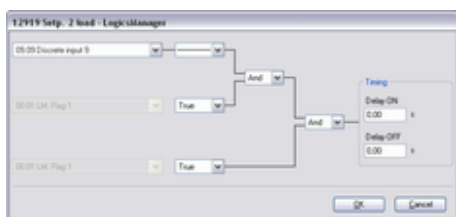

Fig. 206: LogicsManager function "Setp. 2 load"
3. ➤ Configure the LogicsManager function 12919 "Setp. 2 load" as shown in (Fig. 206) to enable load setpoint 2 if discrete input [DI 09] is energized.